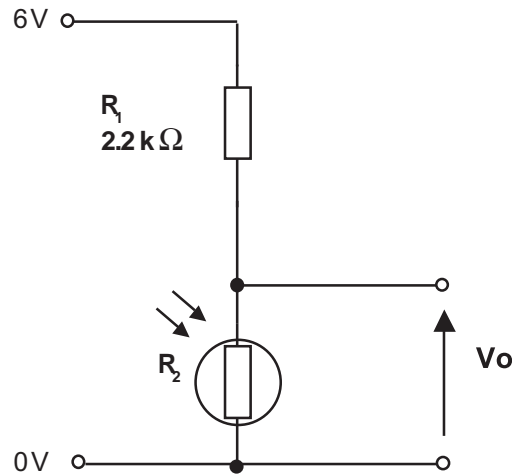

Fig. 9(a)
9 (a) **Fig. 9(a)** shows a voltage divider circuit.
- (i) Resistor R_1 shown in **Fig. 9(a)** is taken from the E12 series. State what is meant by the term E12 series. [2]